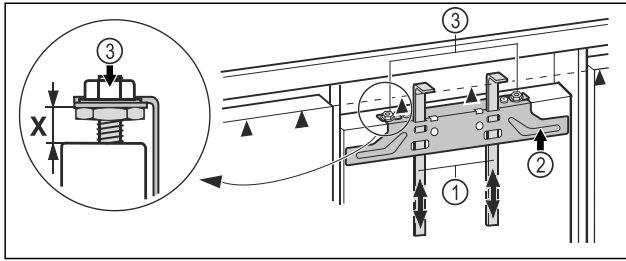

Fig. 20
- ▶ Push the assembly aids Fig. 20 (1) up to the height of the unit door. Lower stop edge ▲ of the assembly aid = upper edge of the cabinet door to be mounted.
- ▶ Unscrew the fastening crossbeam Fig. 20 (2) using the lock nuts Fig. 20 (3).